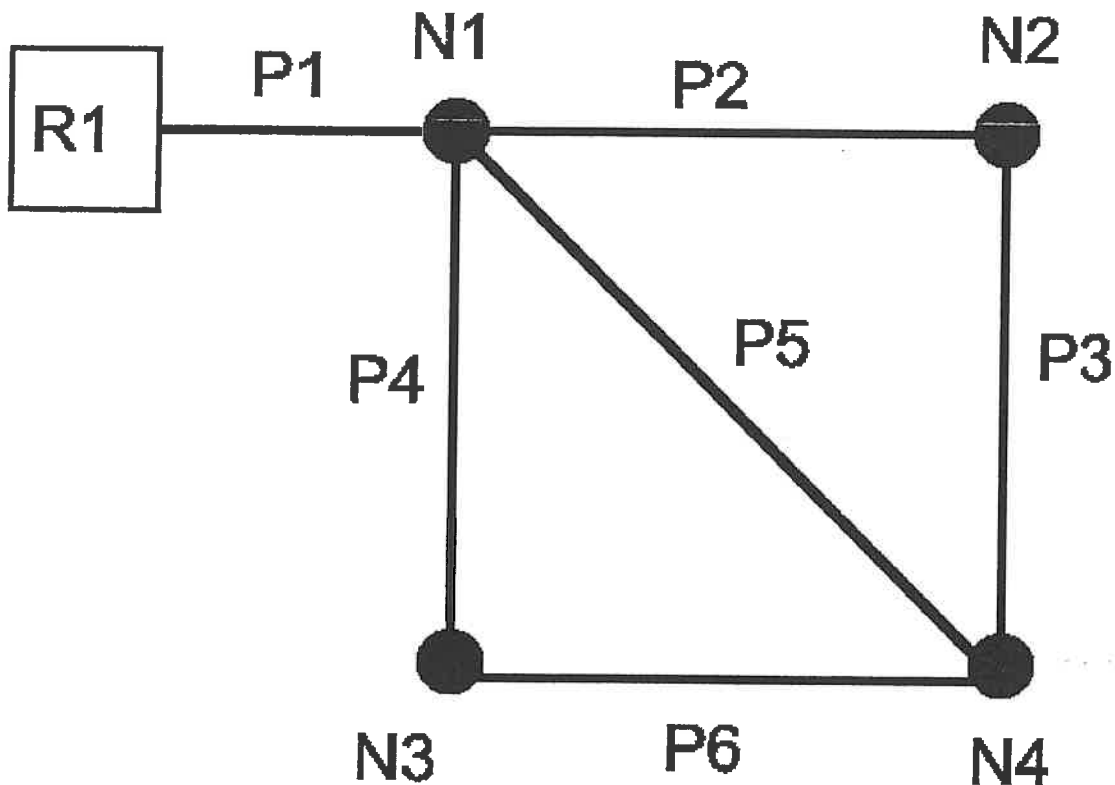

Figure 3. Schematic of water distribution system.
3. A water supply reservoir with a constant but unknown water level supplies a water distribution network, as shown in Figure 3. The elevation and water demand at the nodes of the distribution network are indicated in Table 1. All pipes have a diameter of 203 mm, a Hazen-Williams 'C' factor of 130, and a length of 1,500 m.